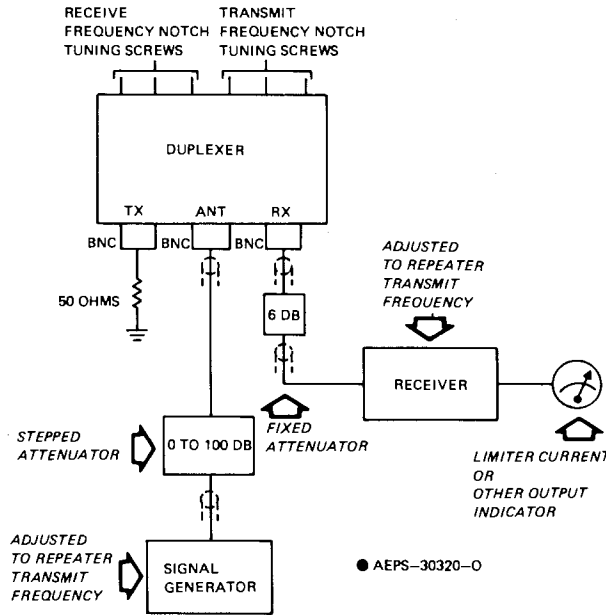

Figure 6. Transmit Frequency Notch Adjustment Test Equipment Set-Up
Step 1. Connect test equipment to the duplexer as shown in Figure 6.